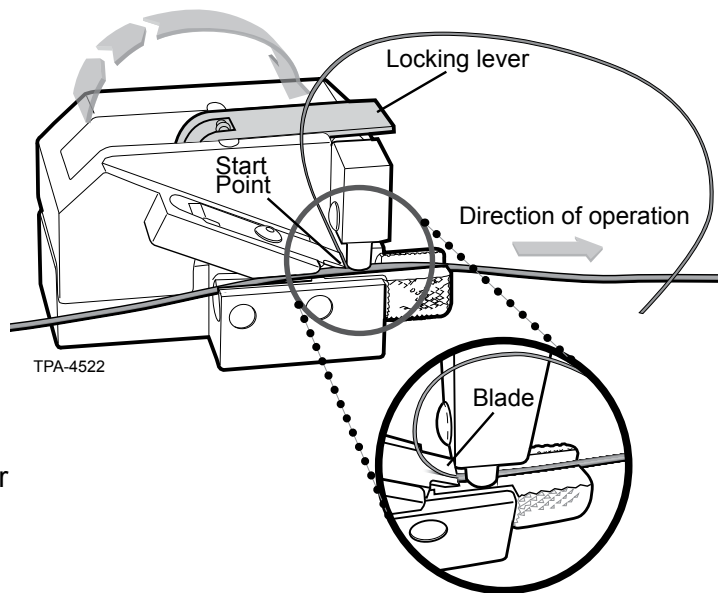

Figure 18
- d. Pull the tool as shown in Figure 18 to shave off the top of the tube and gain access to the fibres (refer to the marks on the buffer tube as required).